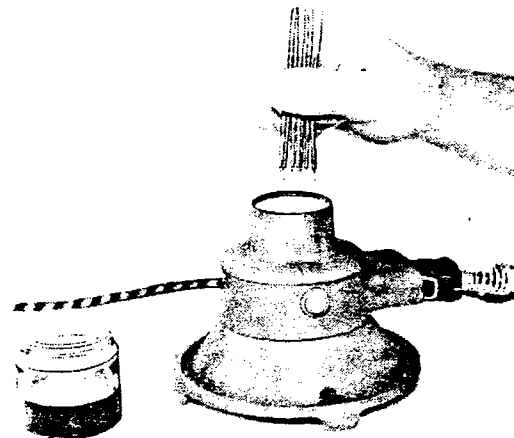

Figure 8
e. Immediately after fluxing, pre-tin approximately 50% of each exposed conductor end. Use of a solder pot and good grade of 60/40 tin-lead solder is recommended, figure 8. Temperature should be 500 to 550 degrees F. Dip the bare conductor ends into the solder about halfway to the insulation. Hold in the bath long enough for the conductors to heat through and tinning of all strands to take place but avoid melting, burning, or scorching the insulation. Remove from pot and shake off excess solder.